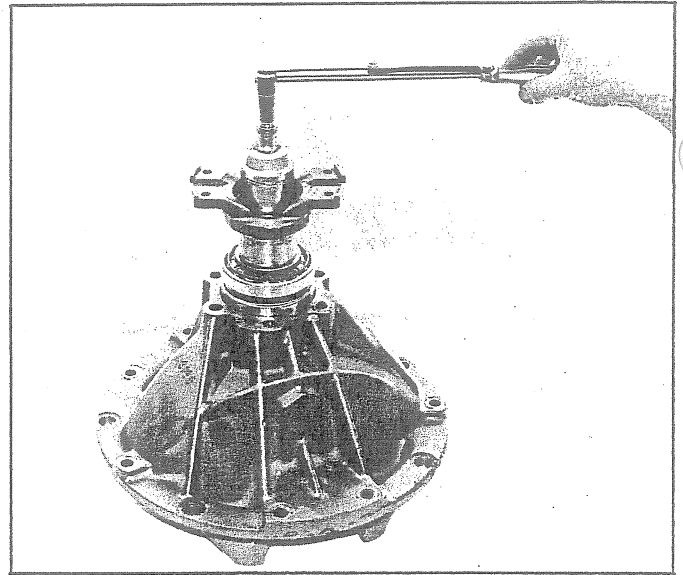

Fig. 115 - Checking Preload of Pinion Shaft Bearings
10. Install pinion shaft assembly into differential carrier, as shown in Fig. 115, and use an inch-lb. torque wrench (as shown) to check bearing preload (rolling torque). Torque wrench should read between 13-23 in.-lbs. while continually rotating pinion (this is bearing preload). If bearing preload is not correct disassembly pinion and add shims to decrease preload, or remove shims to increase preload.